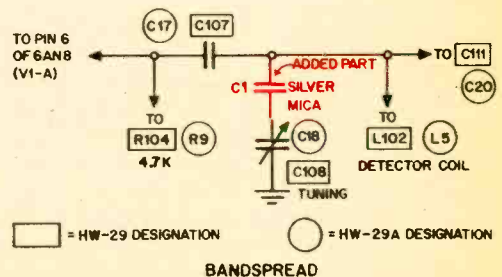
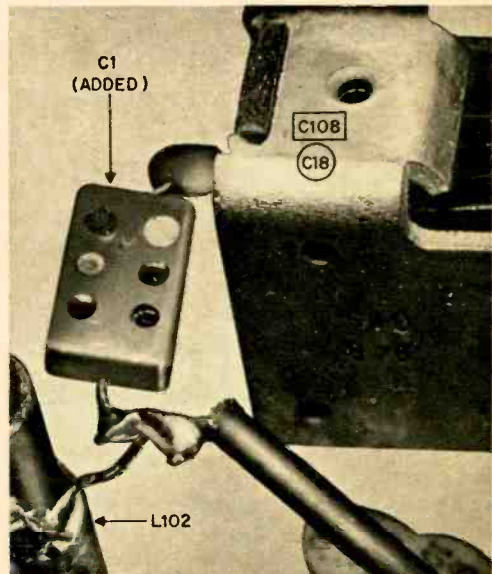

Fig. 2—A 10-mmf capacitor in series with tuning capacitor spreads half the band over entire dial.
Fig. 5—Bandspread modification. Leads formerly going to C108 (C18 in HW-29A) are connected to one side of C1. Other side of C1 goes to C108.
• **Bandspread.** Since almost all activity is on the first two megacycles (50-52 mc) of the 6-meter band, which extends from 50-54 mc, bandspread will eliminate coverage of the dead upper half of the band. The modification requires a capacitor be installed (C1, Figs. 2 and 5) in series with the existing tuning capacitor (C108 in the HW-29, C18 in the HW-29A). By using a 10-mmf capacitor for C1 you can reduce the receiver tuning range to about 1.7 mc, anywhere in the band. This effectively doubles the area that a selected portion of the band will occupy on the dial. Station tuning will now be less critical. If you don't want to spread the band out that much on the dial, use a 15-mmf capacitor for C1. For more bandspread, use a 7-mmf capacitor. Install C1 as shown in Fig. 5 between C108 (C18 in the HW-29A) and detector coil L102 (L5 in the HW-
Fig. 1—Slits in U-section of 4x5x6-inch Minibox (left) permit motor to move left or right to change code-wheel speed. Pick-up wire is insulated from cabinet by binding post. Note in Fig. 2 (above) how pick-up and equalizer wires keep code wheel pressed firmly against the rubber wheel.